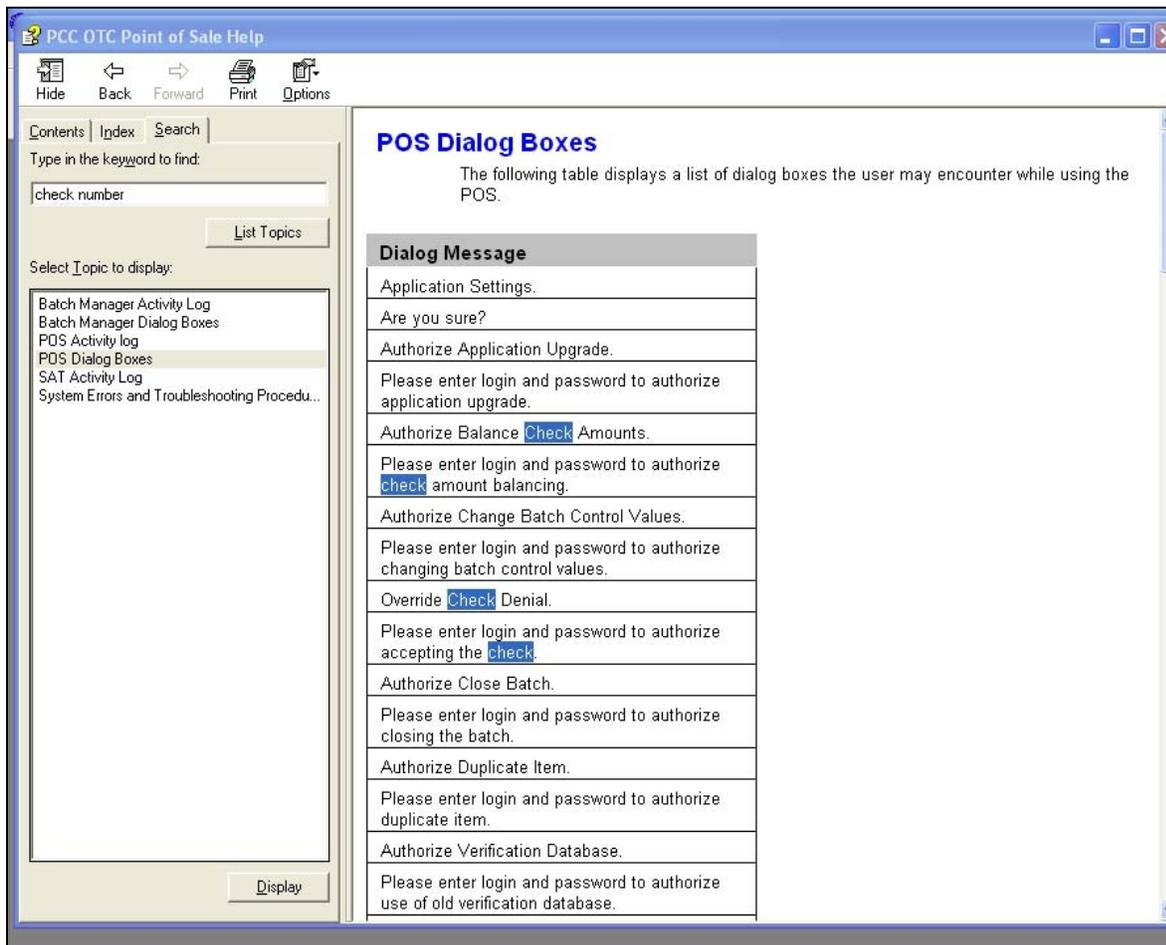

Figure 3.42
- Search – The search function allows the user to type a word or group of words to search for a specific error. An example of the results is displayed in Figure 3.42.